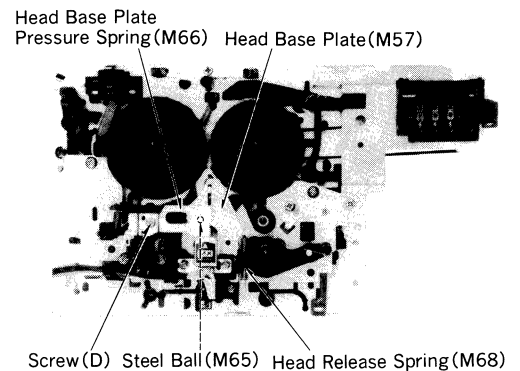
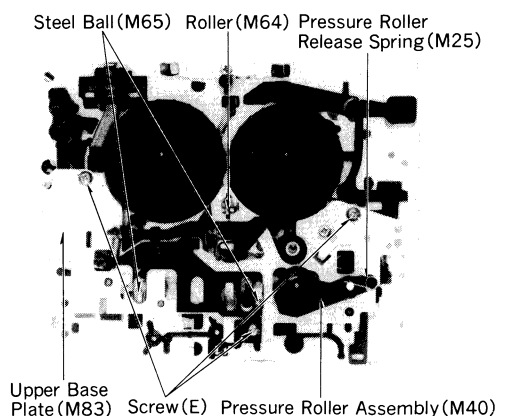

Fig. 3
Fig. 4
1. With screw (D) removed, head base plate pressure spring (M66) can be detached. In this case, take care not to lose steel ball (M65). (fig. 3)
2. With head release spring (M68) removed, head base plate (M57) can be detached. (fig. 3, 4) In this case, take care not to lose steel ball (M65) and roller (M64) (fig. 4)
3. After removing pressure roller release spring (M25), remove pressure roller assembly (M40). (fig. 4)
4. Remove screw (E), and then upper base plate (M83) can be detached. (fig. 4)